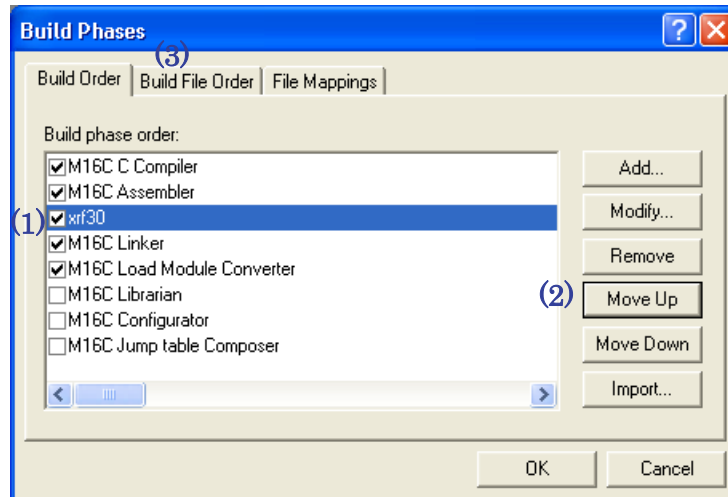

Figure 10 Build Phases Dialog Box (Build Order Tab)
- Click **Move Up** to move xrf30 next to the assembler name (see Figure 10).